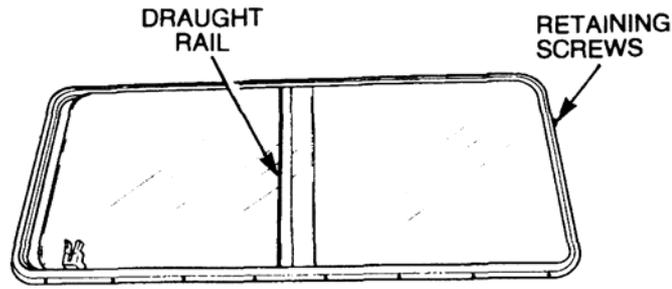

Figure 41 Window Frame Halves Removal
- Remove the recessed screws securing the upper and lower halves of the window frame together (refer Figure 41).
- ee. Tighten the screws securely (refer Figure 41).